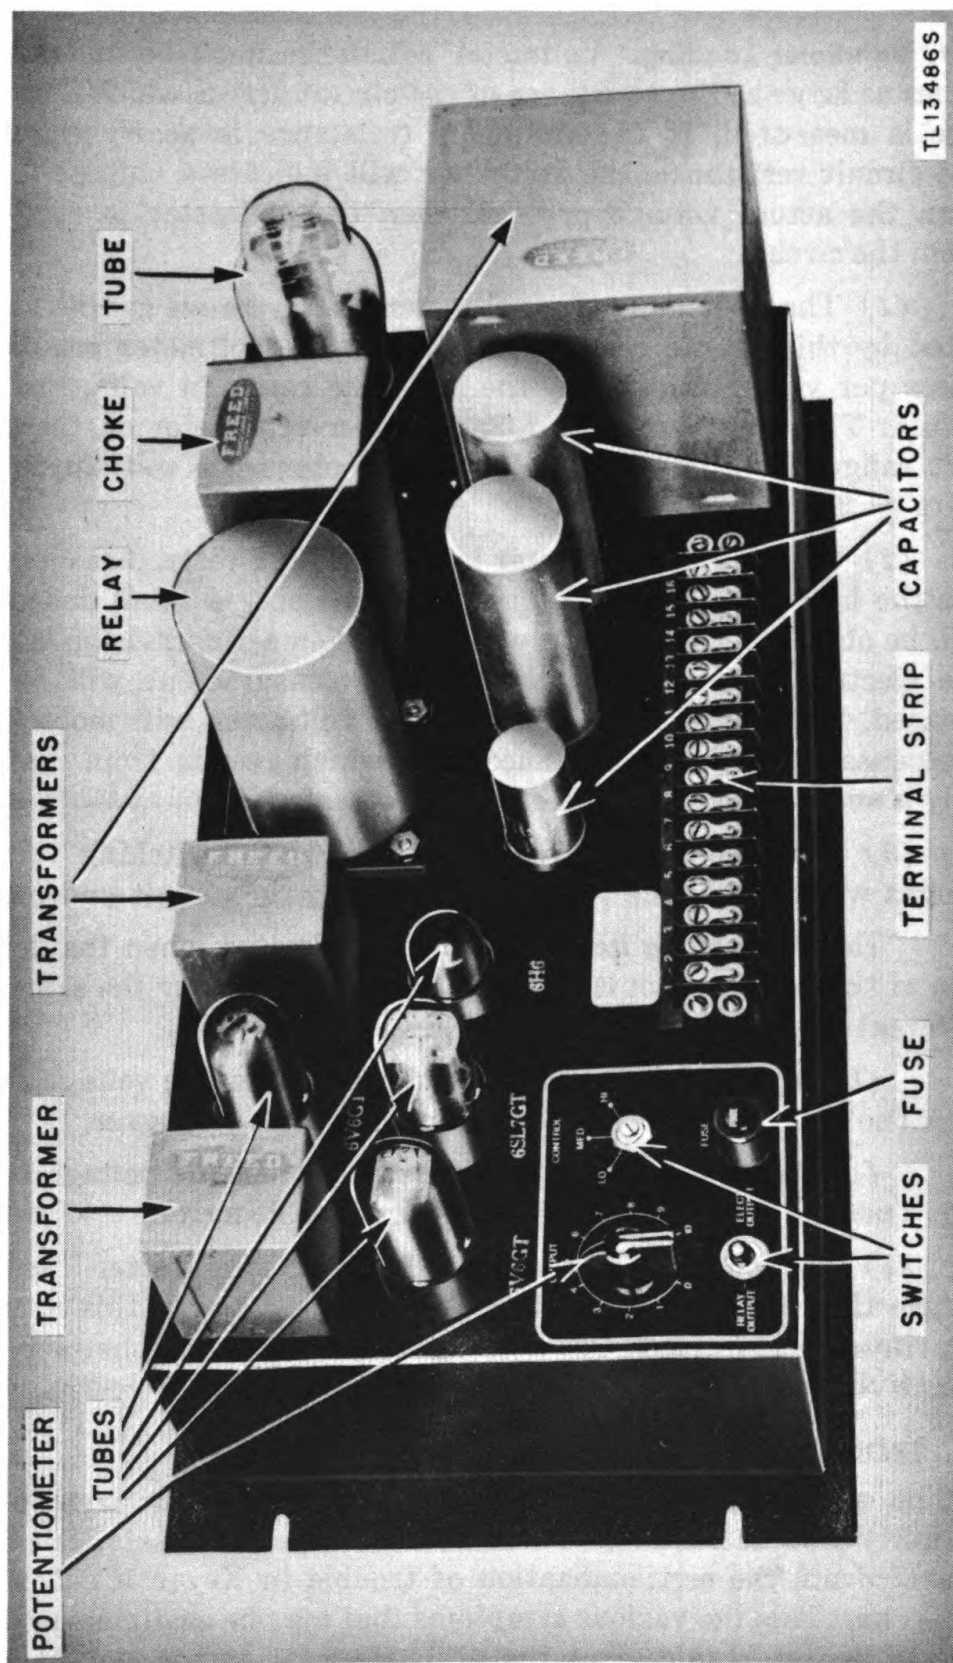

Figure 15. Keyer KY-7/FRT, outside chassis, component parts.
(4) Illustrations of components. Front, back, and inside views which aid in locating and identifying parts (figs. 15 and 16).